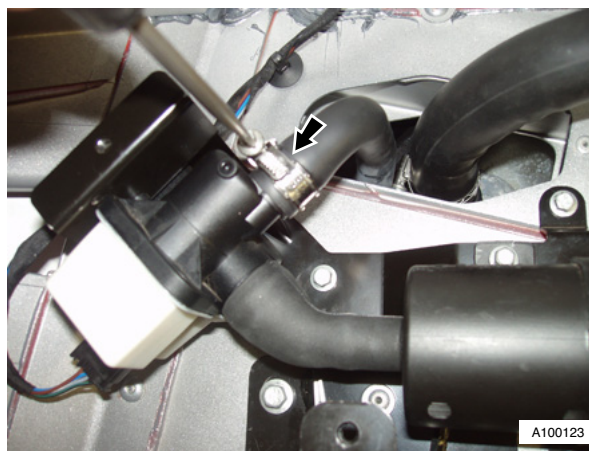

Fig. 3
8. loosen jubilee clip and disconnect hose from evaporative emission control assembly (see Fig. 3).